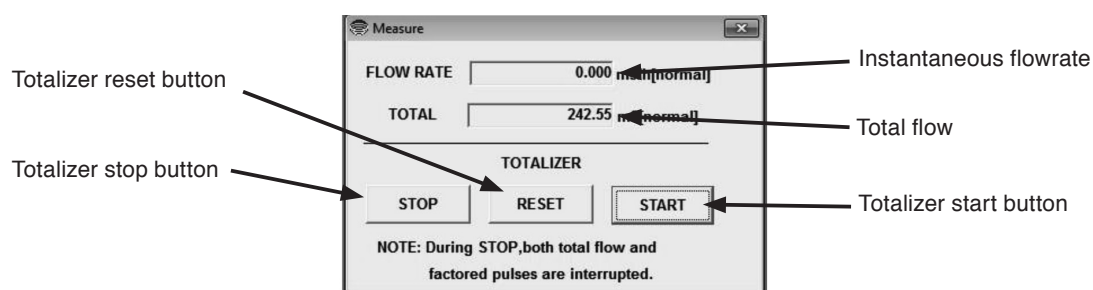

Fig.18
- ② A message box for process variables as shown in Fig. 18 appears.